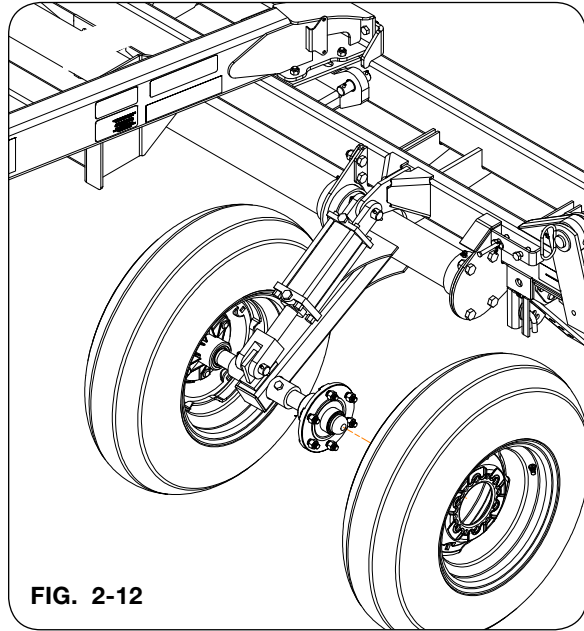

FIG. 2-12
4. Install four 9.5L-15 tires (60911) on base frame (FIG. 2-12).